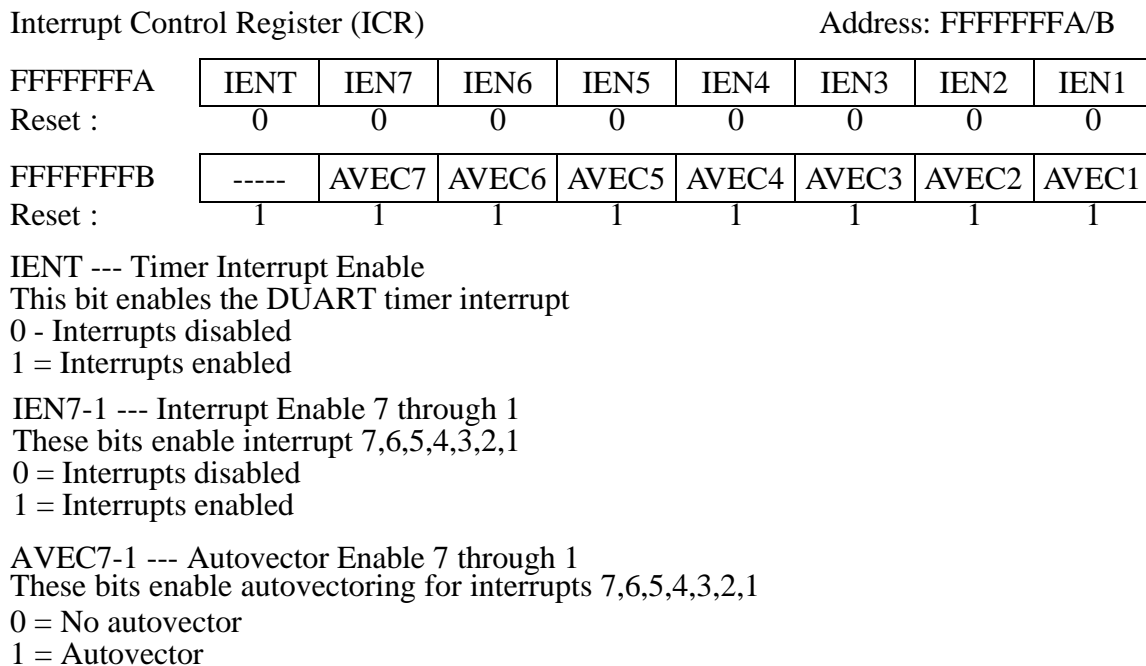

Figure 43 - Interrupt Control Register (ICR)
Whether a priority level uses vectored or autovectored interrupts is also determined by the interrupt controller. The interrupt controller contains a 16-bit Interrupt Control Register (ICR), which can be configured by software. Seven bits of the ICR indicate if the corresponding interrupt levels are vectored or autovectored. Another 7 bits enable or disable their corresponding interrupt levels. Finally, one bit enables the timer interrupt, which is described in Section 8.2.5 on page 107. Figure 43 shows the configuration of the ICR in detail.
5. If the interrupt is not a level 4 interrupt, initialize the ICR register as described in Figure 43 on page 102. Note: The ICR register is configured for level 4 interrupt by default.
7. Set the processor status register (SR) to a proper priority level.